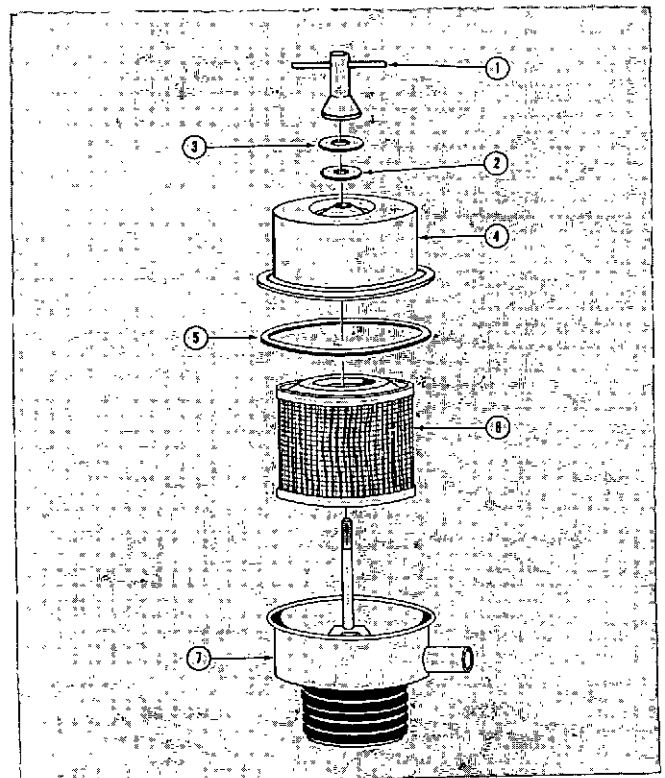

Fig. 2-20 (N20311) Crankcase breather — combination type
1. Remove wing nut (6, Fig. 2-20), flatwasher and rubber washer securing cover (1) and element assembly to breather.
2. Remove cover, element (2) and gasket (4).